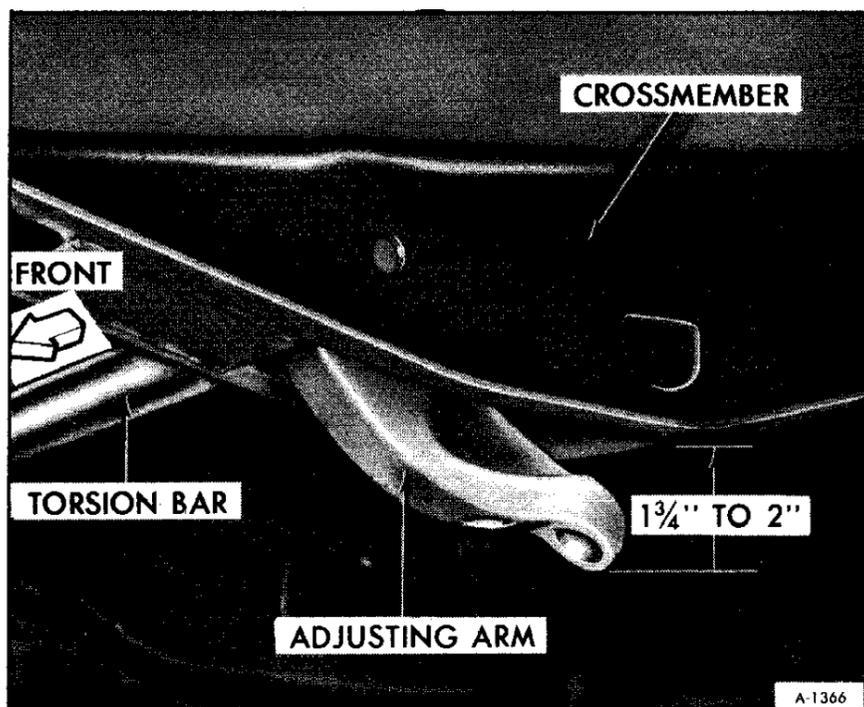

Figure 17—Positioning of Adjusting Arm
6. Insert adjusting arm into the crossmember and position approximately  $1 \frac{3}{4}$ " below the centerline of the crossmember (see figure 17). Slide torsion bar rearward until it is flush with the rear face of the adjusting arm.
the crossmember. (Refer to figure 17.). Tap crossmember forward enough to engage bar into arm.